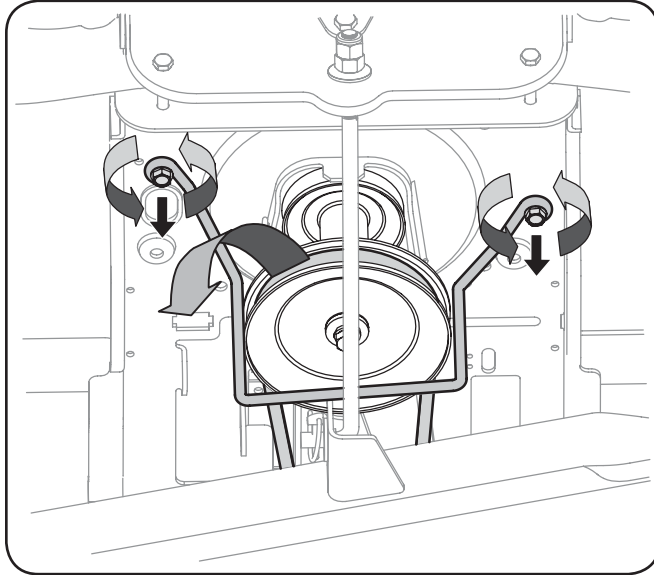

**Figure 7-1**
3. Locate the engine pulley (or electric PTO clutch if equipped) under the front of your tractor. See Fig. 7-1.
4. Remove the belt guard and belt as follows. Refer to Fig. 7-1: